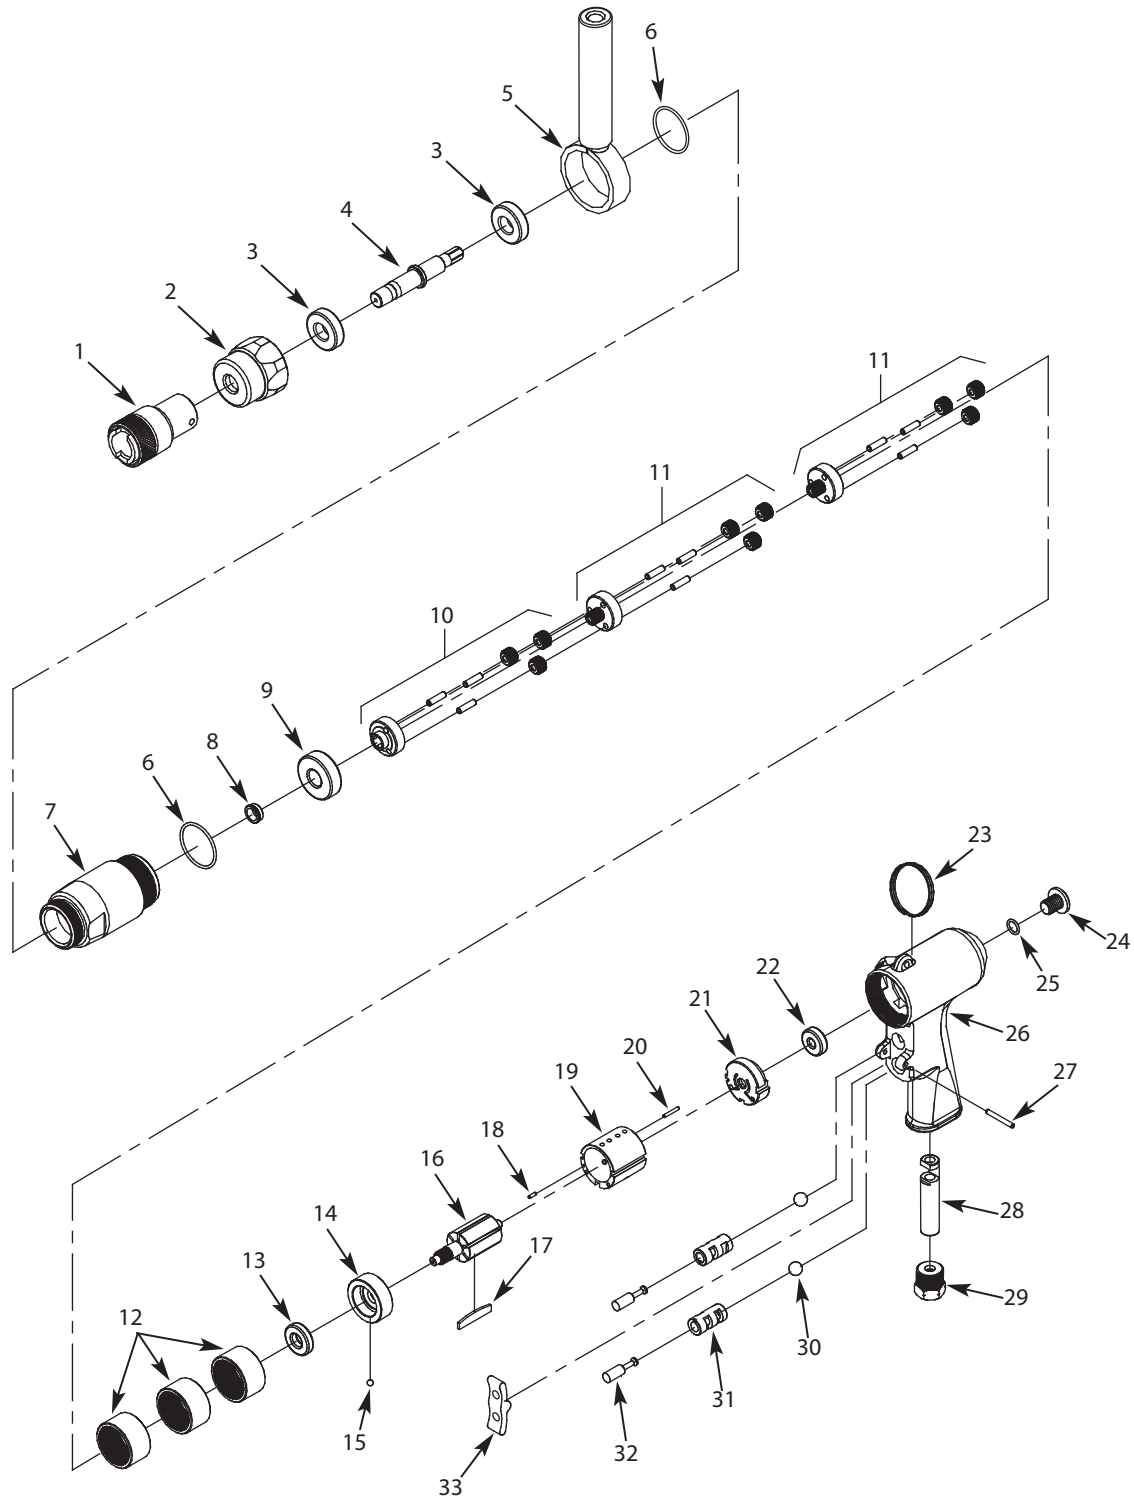

Figure 3 – Repair Parts Illustration for Pneumatic Hand Tapper 150 RPM
- Slide grip (Fig. 3, Ref. No. 5) over the chuck and onto the barrel (Figure 3, Ref. No. 7).
- Insert tap holder with tap into chuck (Fig. 3, Ref. No. 1). Pull back chuck sleeve, insert tap holder with tabs aligned to slots in chuck sleeve, and then release sleeve.
Refer to Figure 3.